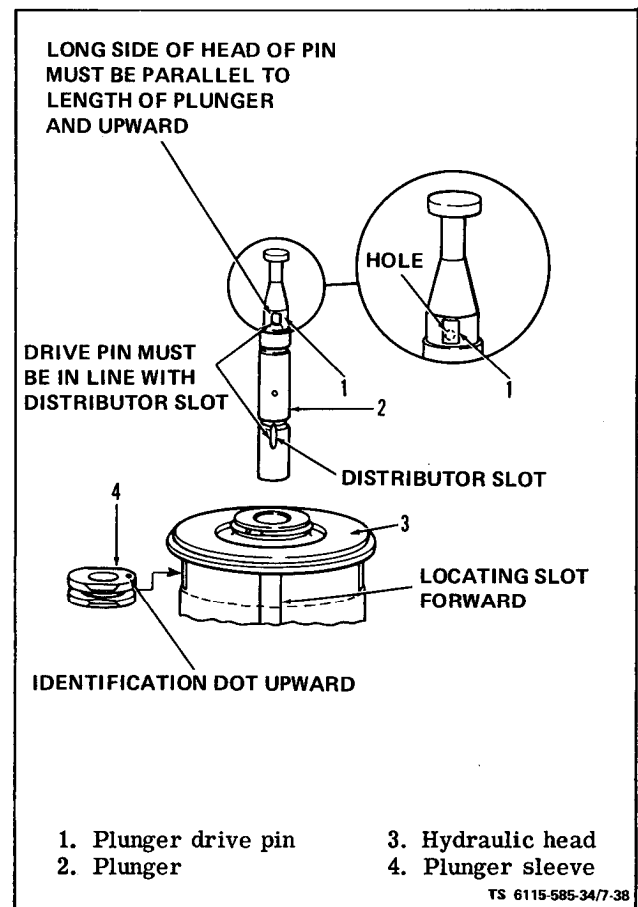

Figure 7-38. Assembling Hydraulic Head
(1) After all parts have been thoroughly cleaned and inspected and after all worn units have been replaced, dip the individual parts in clean fuel oil.
(2) Invert the hydraulic head (17) and place it on a clean bench so that the head locating slot is forward.
(3) Refer to figure 7-38 and align the plunger drive pin (1) into the plunger (2) so that the head of the plunger drive pin is in the line with the distributor slot. Turn the plunger drive pin until its long side is parallel to the length of the plunger with long end up.
(5) Carefully center spring ring (27) on hydraulic head assembly.
(6) Position the face gear (28) and thrust washer (29) over the end of the plunger and align the head of the plunger sleeve pin with its mating slot located on the inside of the face gear (28).
Do not use excessive pressure. If gear will not snap into place easily, remove gear and check to see that spring ring (27) is centered, and that plunger drive pin (1, figure 7-38) is properly aligned.